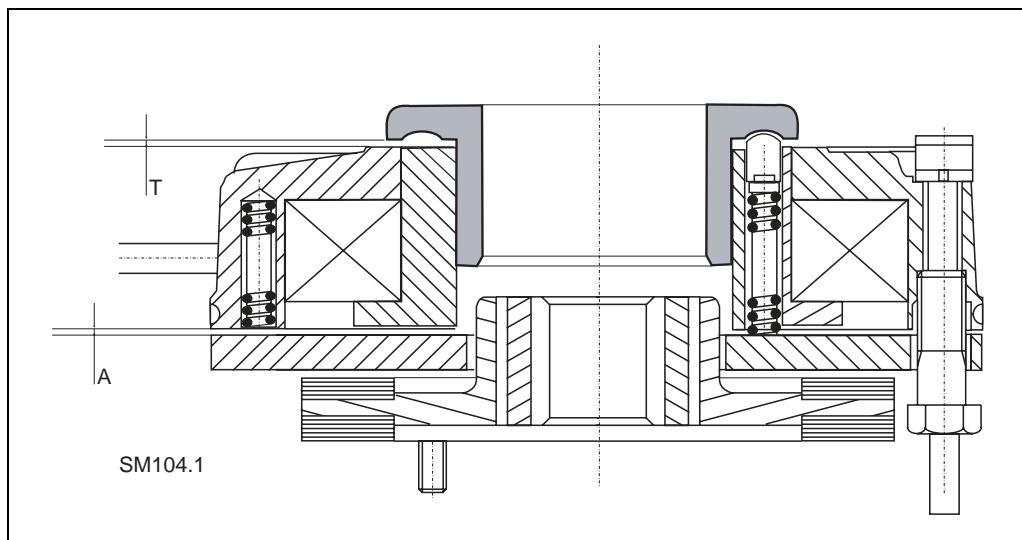

Figure 11.1 Electric brake
2. Check the gap, see figure 11.1, between the magnetic part and the plate (the A dimension should be: $A = 0.2 \text{ mm}$)
- When refitting the magnetic part adjust the T dimension to the same dimension as before by means of a hook spanner, see figure 11.1.